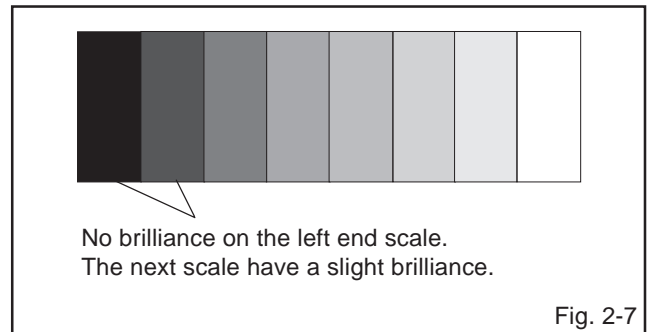

Fig. 2-7
5. Press the PLAY or STOP button on the remote control until the second scale from left end is starting to glitter. (**Refer to Fig. 2-7**)